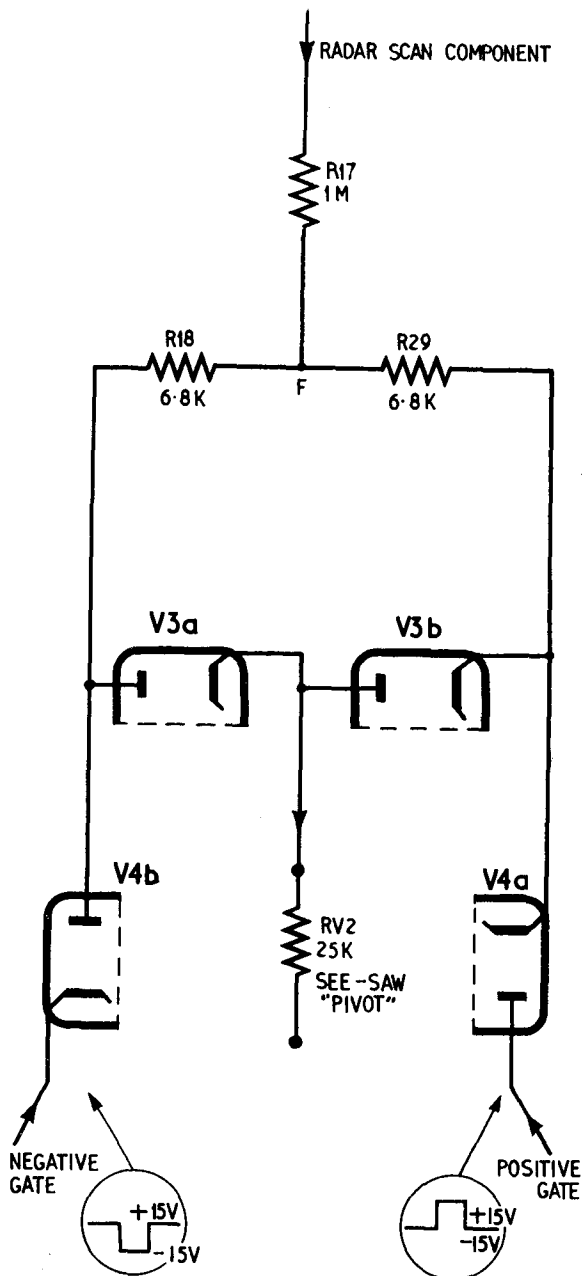

Fig. 10. Radar side of gating diodes
24. Considering first the radar input side (fig. 10) it is seen that during the trace period V4B cathode is held at +15V, and V4A anode at -15V, so that neither of these diodes passes more than a fraction of 1mA. The input at the point F is there-
26. A similar circuit is provided in the inter-trace marker input arm (double-diodes V5 and V6, CV140), but all the diodes are connected in the opposite sense to the ones in fig. 10, so that the action is just the reverse of that described above. The inter-trace deflection component is therefore admitted during the gate pulse, and excluded at other times. The reason for the inclusion of RV2 between the two input arms was explained in para. 16.